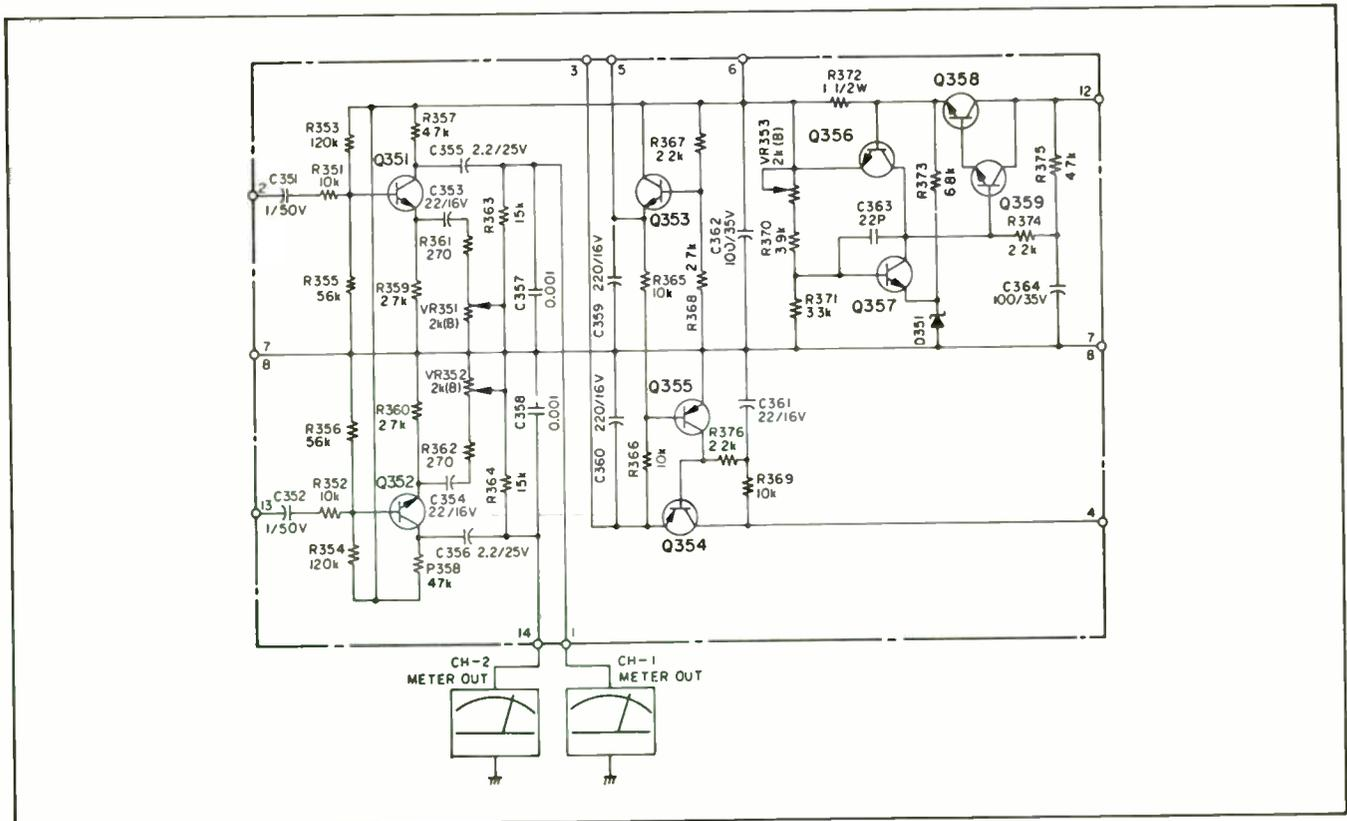

Figure 4-15. Meter Amplifier/Stabilizer Schematic
**4-26. Meter Amplifier/Stabilizer.** Refer to schematic, Figure 4-15. The meter amplifier is a simple grounded emitter amplifier. The stabilizer functions to supply a stabilized voltage to each amplifier. The supply voltages to the reproduce equalizer amplifier are +12.6 volts and -13.8 volts. The other amplifiers require +24 volts.